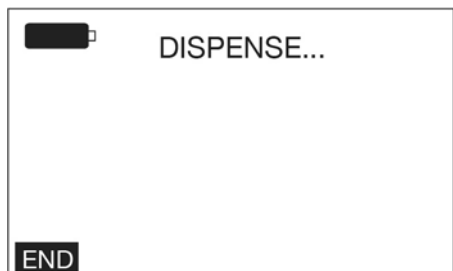

FIG. 15
6. Select **ACTIVATE** and press the **ENTER** button. **DISPENSE** (as shown in FIG. 15) displays on the screen.